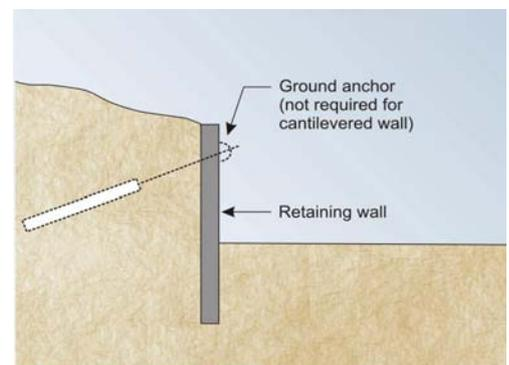

Figure 6 - Typical cantilevered or anchored wall
**Cantilevered and anchored walls** (Figure 6) - rely on earth pressure on the low side, rather than self-weight, to provide the restoring force and an adequate factor of safety. These walls may comprise: